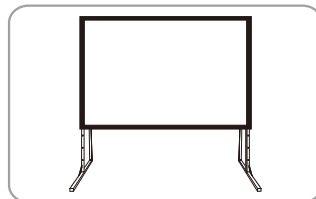

Figure 21
- Lift up the screen and installation is completed ( Figure 21 ).